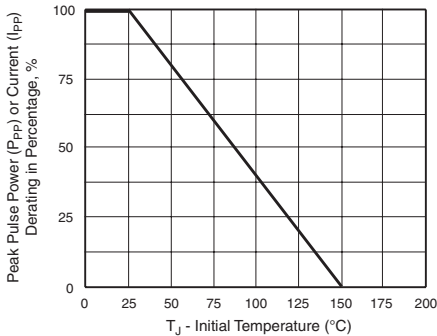
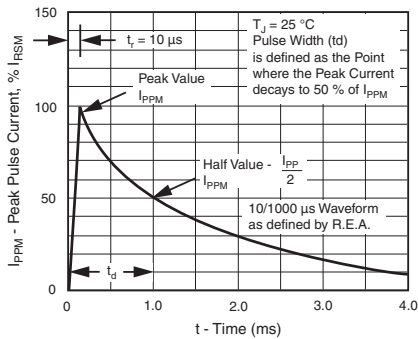

Figure 2. Pulse Power or Current vs. Initial Junction Temperature
Figure 3. Pulse Waveform
- (1) Pulse test:  $t_p \leq 50$  ms
- (2) Surge current waveform per Fig. 3 and derate per Fig. 2
- (3) All terms and symbols are consistent with ANSI/IEEE C62.35